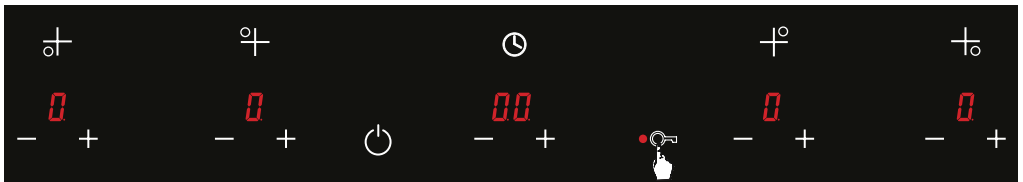

Figure 49
1. Child lock is activated by pressing the lock key () once to prevent undesired operations. (See Fig. 49) The dot () beside the lock symbol illuminates.